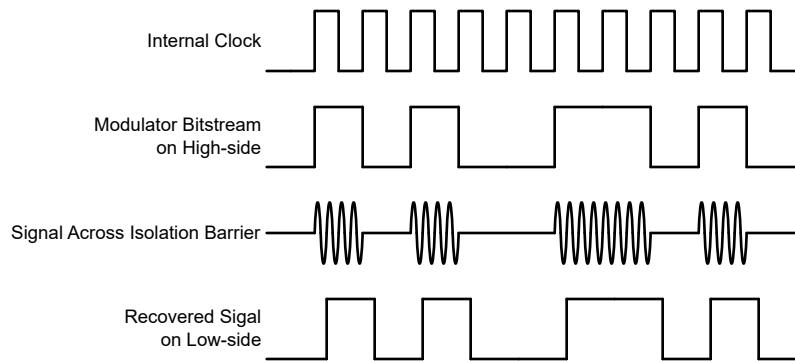

Figure 7-1. OOK-Based Modulation Scheme
As shown in Figure 7-1, the AMC0x30S uses an on-off keying (OOK) modulation scheme to transmit the modulator output bitstream across the SiO_2 -based isolation barrier. The transmit driver (TX) is illustrated in the Functional Block Diagram. TX transmits an internally generated, high-frequency carrier across the isolation barrier to represent a digital one. However, TX does not send a signal to represent a digital zero. The nominal frequency of the carrier used inside the AMC0x30S is 480MHz.